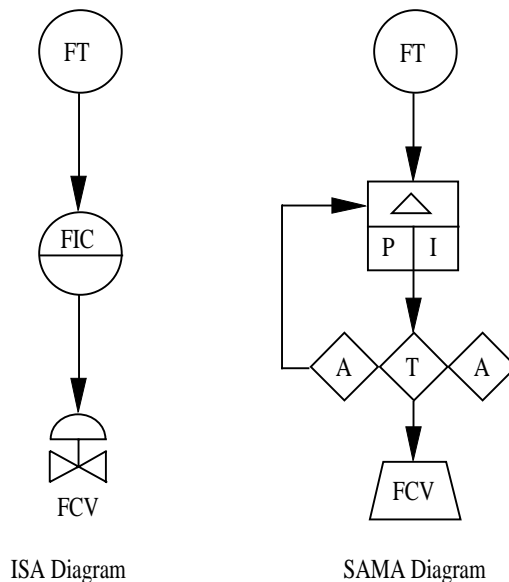

FIGURE 1 ISA vs. SAMA Functional Diagrams
Figure 1 shows a simple flow control loop using both ISA and SAMA diagrams. Only the symbol for the flow transmitter (FT) is identical in both cases. The ISA diagram shows a very symbolic representation of the flow indicating controller (FIC). The SAMA diagram provides a more detailed block diagram of the proportional plus integral (PI) controller with setpoint and manual adjustments and auto/manual transfer switch. The SAMA and ISA versions also use different symbols to represent the flow control valve (FCV).